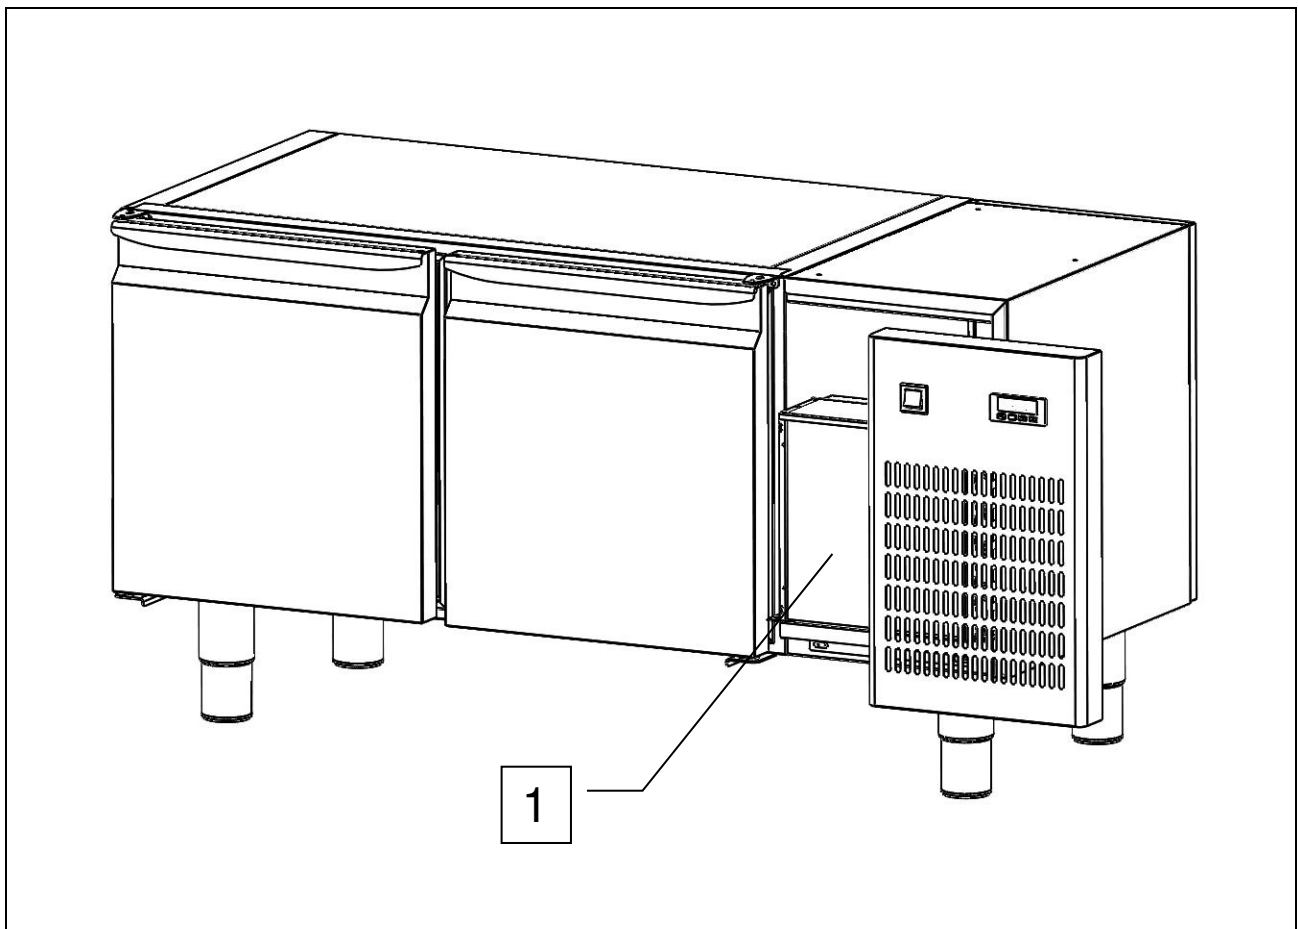

Fig. 9
For trouble-free efficient refrigerating unit operation, the air-cooled condenser (ref. 1 fig. 9) must be always kept clean so that air circulates freely. Cleaning must be done once every 60 days at the most. Use non-metallic brushes to clean, ensuring that all the dust and fluff is removed from the fins. We recommend using a vacuum cleaner so as to avoid dust being dispersed into the environment. If there are greasy deposits, remove them using a small brush soaked in alcohol. **DO NOT SCRAPE THE SURFACES WITH SHARP POINTED OR ABRASIVE OBJECTS.**